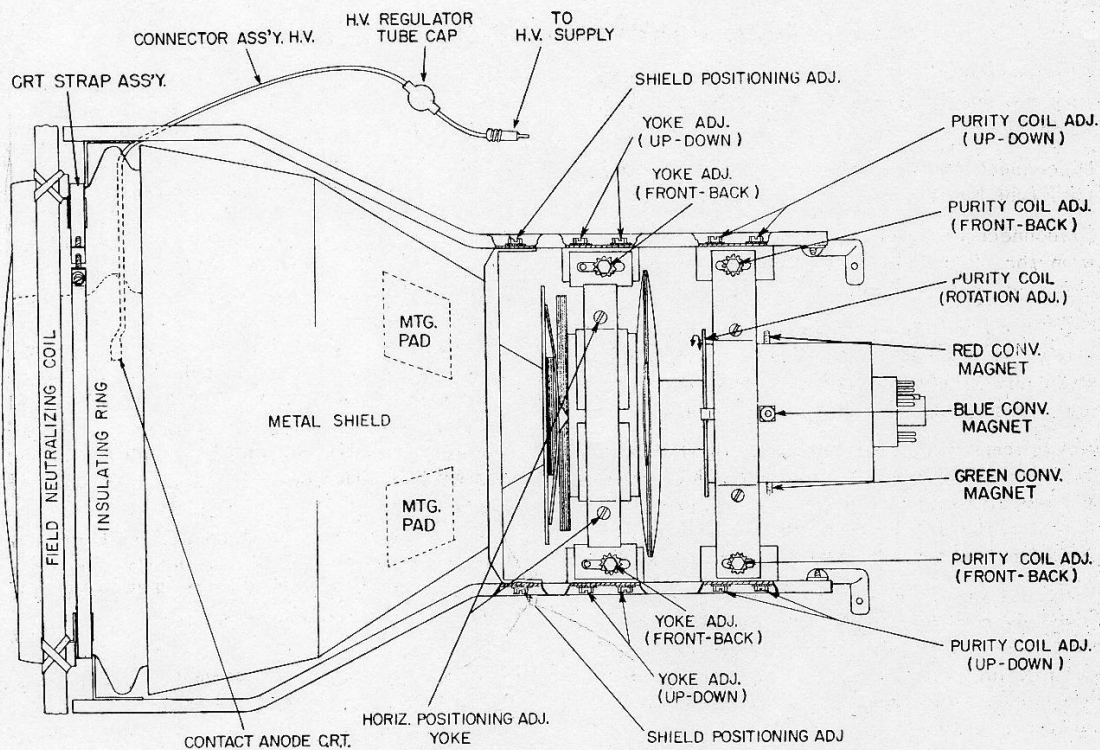

FIGURE 2 CRT ADJUSTMENTS
3. Loosen the yoke adjustment front-back Figure 2, and slide the yoke assembly back (approximately 3").
4. Rotate the purity coil rotation adjustment (Figure 2) in connection with the color-purity control Figure 6 until the most uniform red appears in the center area of the tube. (Disregard the purity condition along the sides and at the top and bottom.